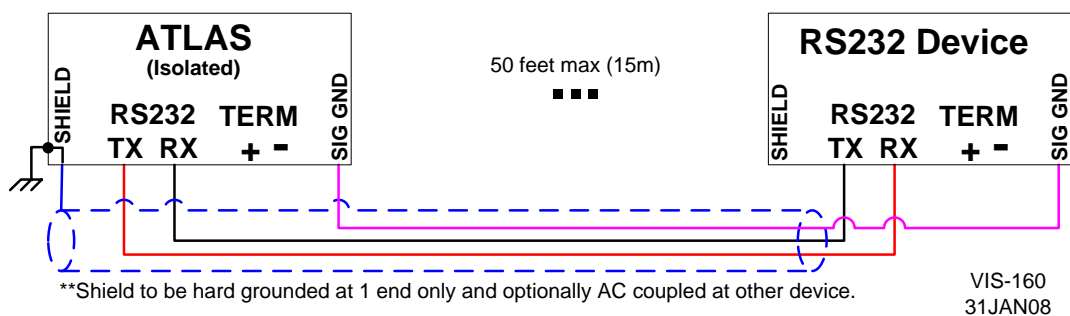

Figure 4-21. Wiring Example—RS-232 Interface to the SmartCore CPU A5200 Board
- **RS-232.** Refer to Figure 4-21 for RS-232 wiring. The transmit data (TXD), receive data (RXD), and signal ground (SIG GND) must be properly connected as shown. In addition the shield (SHLD) should be connected in at least one location.